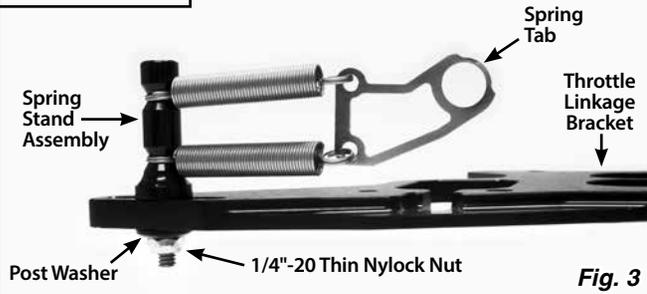
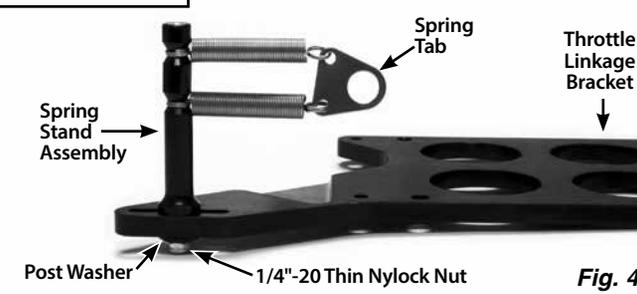

Fig. 3
Fig. 4
Step 1: Remove the 1/4"-20 thin nylock nut and the post washer from the spring stand assembly. Install the spring stand with the springs and spring tab onto the top side of the throttle linkage bracket, into the slot at the front driver side corner. Install the post washer (beveled edge out) and 1/4"-20 thin nylock nut on the bottom. **Fig. 3 and Fig. 4**